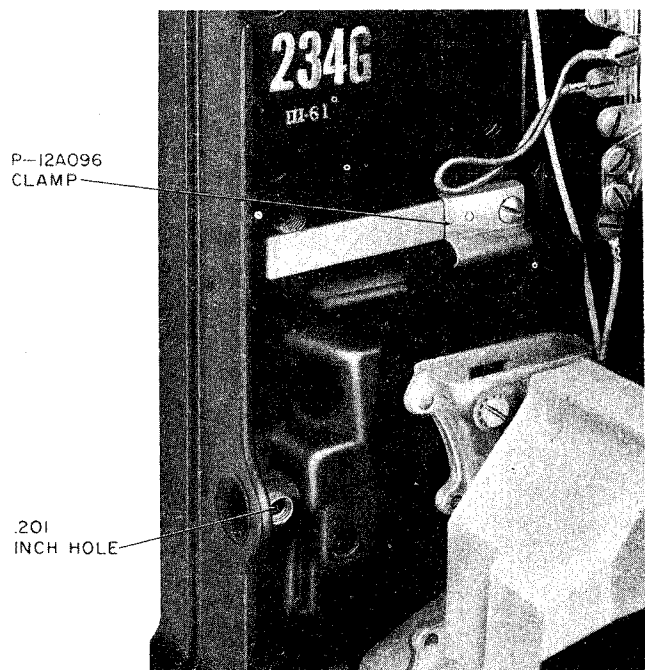

Fig. 28—Location of .201 Inch Hole
- (4) Using a small center punch and hammer, mark hole to be drilled and tapped in the coin collector backplate. This hole is to be located in the cord entrance tube halfway between the outer beveled edge of the coin collector and the left edge of the cord chamber (Fig. 28).
- (5) Drill hole located in step 4 with a No. 7 drill.